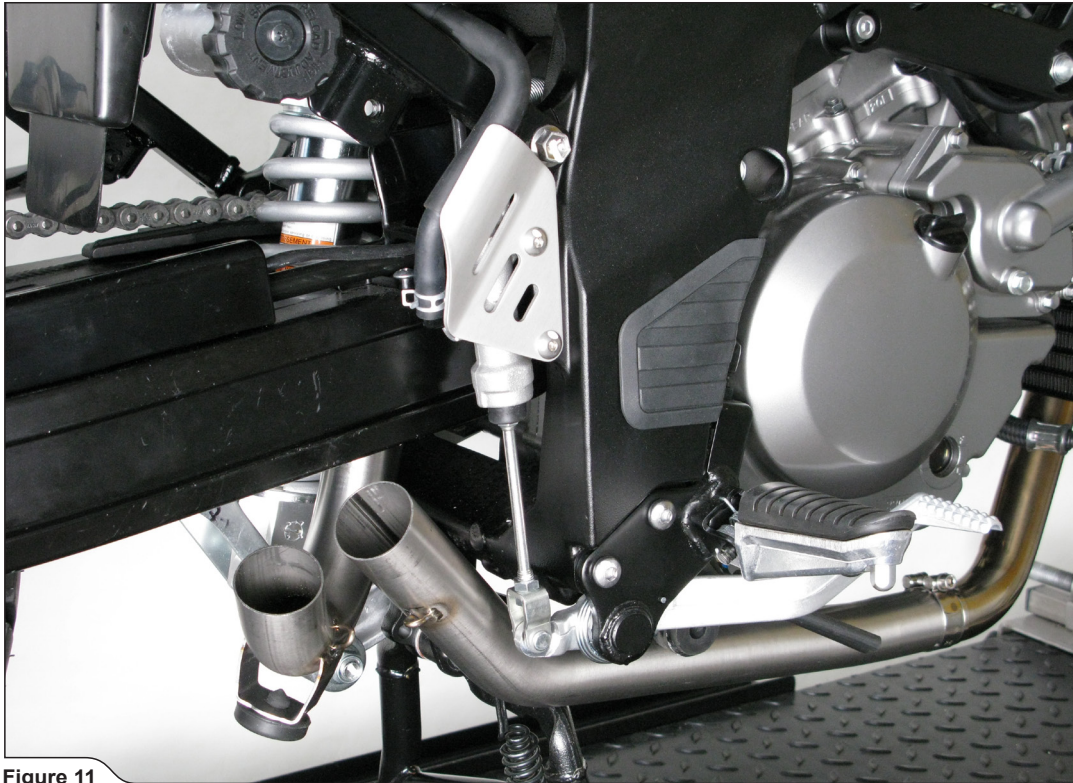

Figure 11
- Slide the Akrapovič front pipes onto the front and rear stock headers, as show (Figure 11).